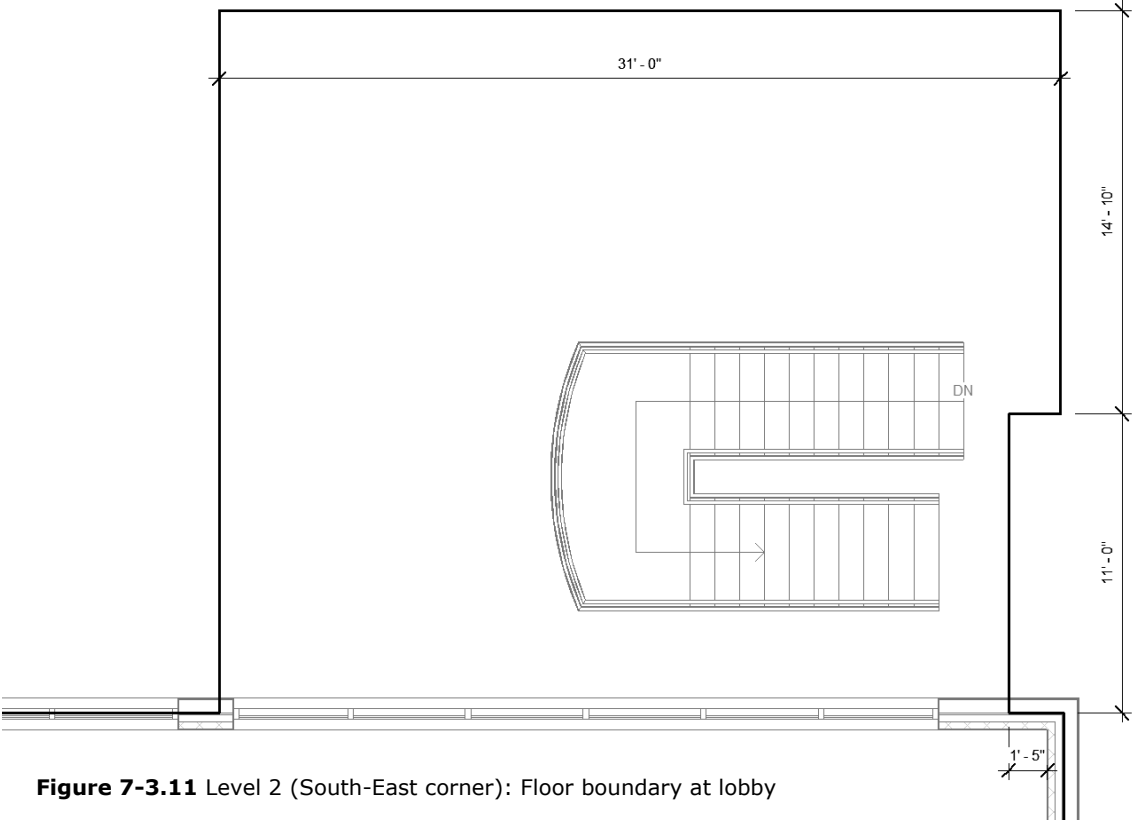

Figure 7-3.11 Level 2 (South-East corner): Floor boundary at lobby
26. Sketch the floor opening as shown in Figure 7-3.11: